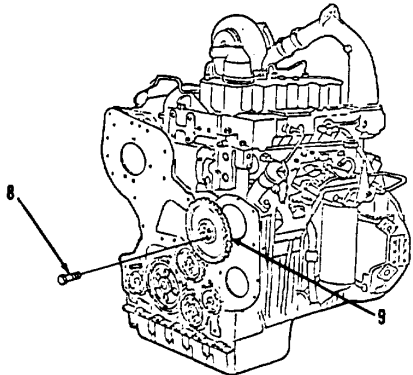

Figure 3-28.
- 6. Install four bolts (8) to secure gear (9, Figure 3-28). Tighten four bolts (8) to 41 ± 5 ft-lb torque.